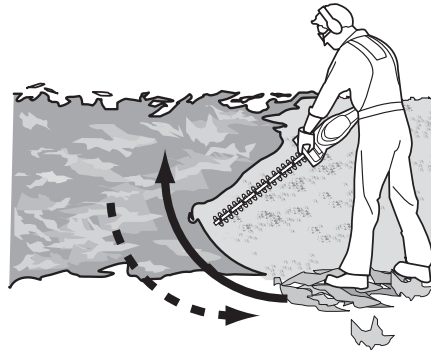

Fig. 13
- > First cut both sides from the bottom cutting upwards to the top. This will prevent any of the cuttings falling into the path of the area still to be cut (Fig. 13).